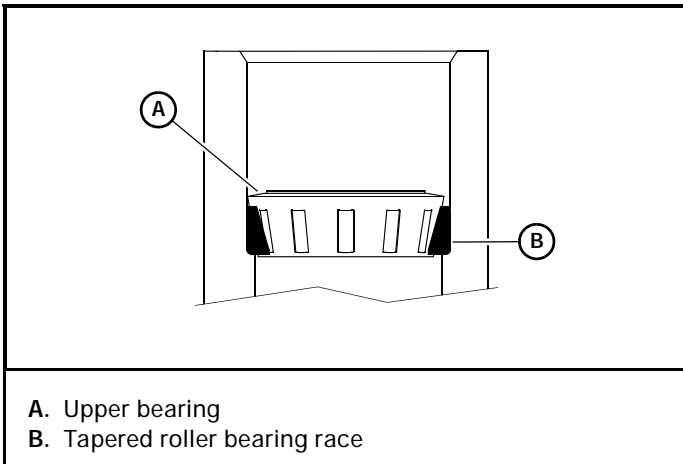

Figure 4-37
10. Install the upper bearing. Figure 4-37